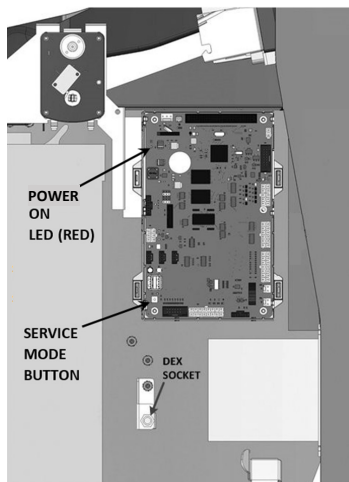

Figure 1 – Service Mode Button
To enter **Service Mode**, press the **Service Mode Button** located in the lower left hand corner of the control board. See figure1. To exit Service Mode, press the Service Mode Button again or press the key 3 times.